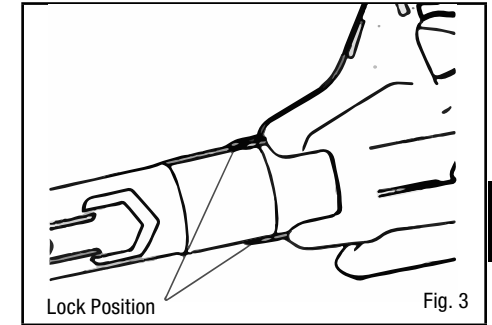

Fig. 3
2. Pull out the tube from the tool lock position (Fig. 3)